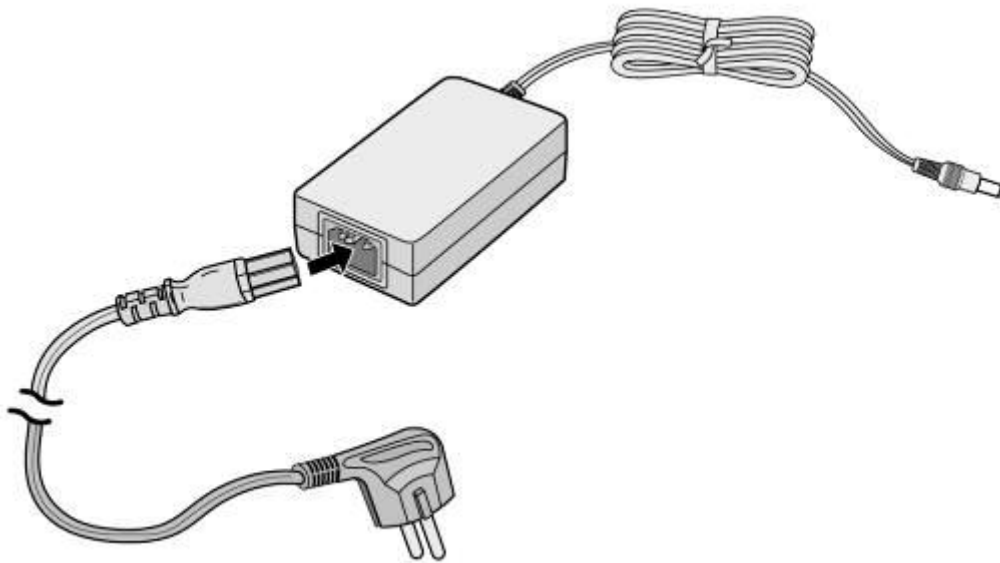

Figure 2.1.3-1 AC/DC adapter MFIM50A/B
LIK-MFIM50A/B, Figure 2.1.3-1, are packaged with an AC/DC adapter. The adapter is supplied with a two (2) meter (six (6) foot) AC cord terminated with the nationally relevant AC blade type. The adapter supports AC input power systems with rated voltage range of 100-240 VAC @ 50/60 Hz. The adapter provides 12 VDC, 1.5A amps. The DC output connector is cabled to the adapter with a two (2) meter (six (6) foot) cable.